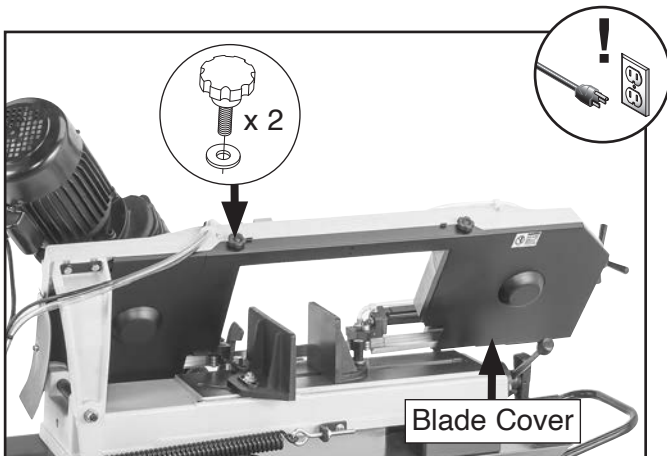

Figure 38. Location of blade cover and fasteners.
3. Remove (2) knobs and flat washers shown in **Figure 38** to remove blade cover.